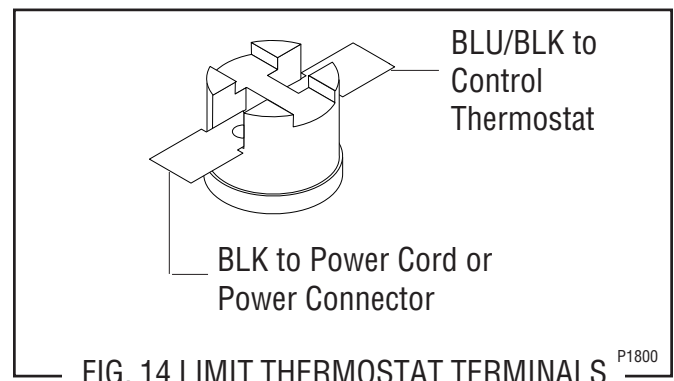

FIG. 14 LIMIT THERMOSTAT TERMINALS
4. Refer to Fig. 14 when reconnecting the wires.